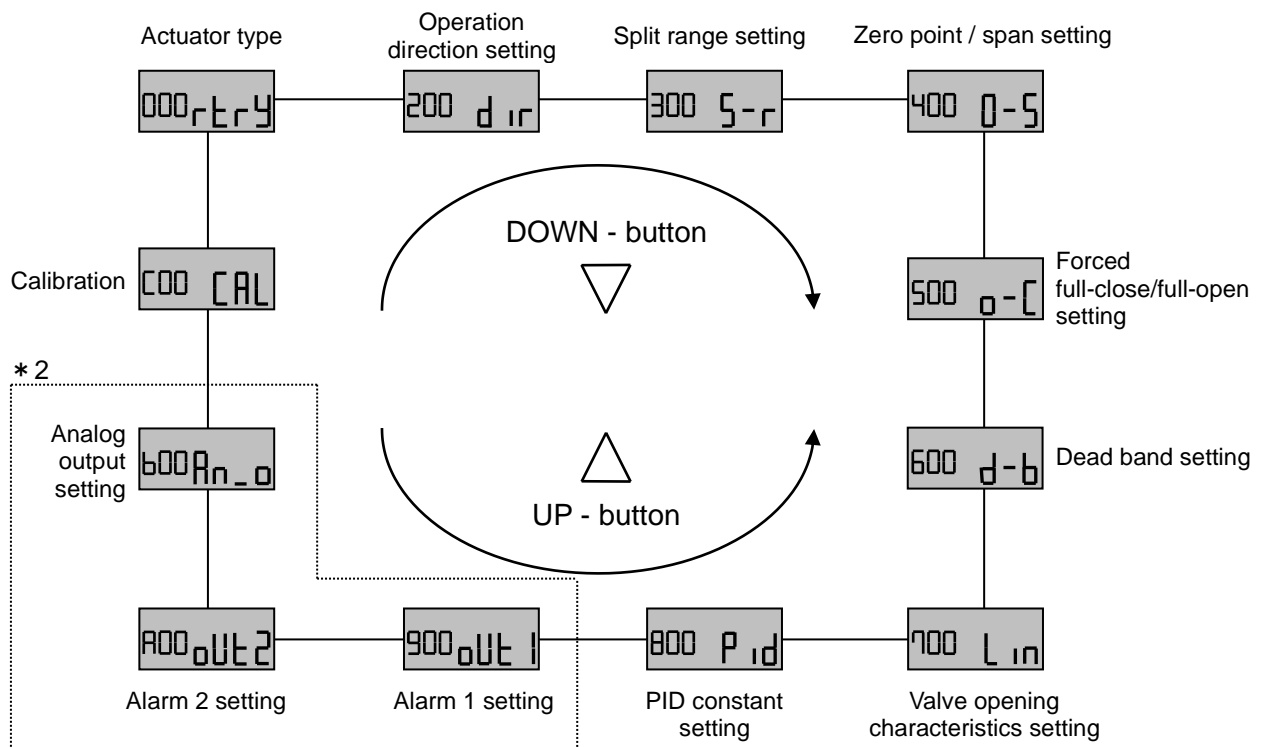

Fig. 23
- (1) When an input current is entered for the first time, only the parameter mode can be selected. According to "Initial Adjustment", calibrate the positioner.
- (2) After (1), the auto mode is displayed first when an input current is entered.
- (3) The parameter code is shown in Fig. 23. The standard product (without any option) has 8 setting items. The product with option output has 11 setting items. Select the parameters in order with the down-/ up -button (▽ or △).
- (4) Parameters stop with parameter codes flashing, and the codes can be changed by pressing the set button (⌂+△) for 1sec. or more. Push the down -/ up-button (▽ or △) to modify a value. After the value is decided, push the mode button (⌂) to go back to the parameter code flashing status\*1.
- (5) To enter the lower hierarchy, press the set button (⌂+△) for 1sec. or more. To go back, press the mode button (⌂) for 1sec. or more, to display a sub menu.
- (6) See the next page, "Parameter Code Detail" for detail of parameter codes.
\*2: The parameter surrounded by a broken line in Fig. 23 will not be shown for the standard type (IP8101-0 \* 0) or the product with HART communication (IP8101-0 \* 3).